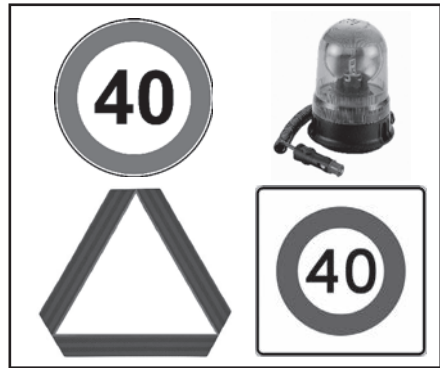

Fig. 2.22
- Make sure the tractor and any other implements have slow moving vehicle symbols or a rotating light if required by law (Fig. 2.22).